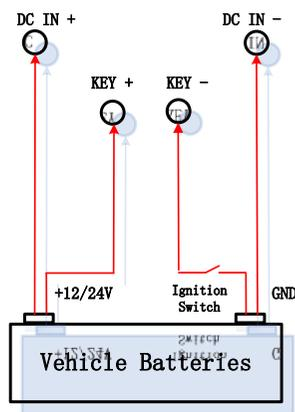

Fig 2.5
(2) Connection of Negative Pole Switch (Fig 2.5):